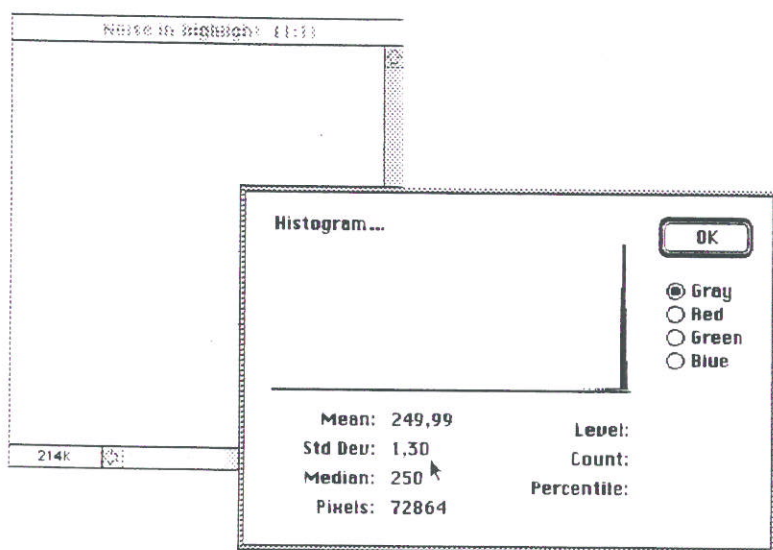

Fig. 1
- 6 • Select **Image** and then **Histogram** and check that the standard deviation in gray, red, green and blue is not greater than 5 (fig. 1).